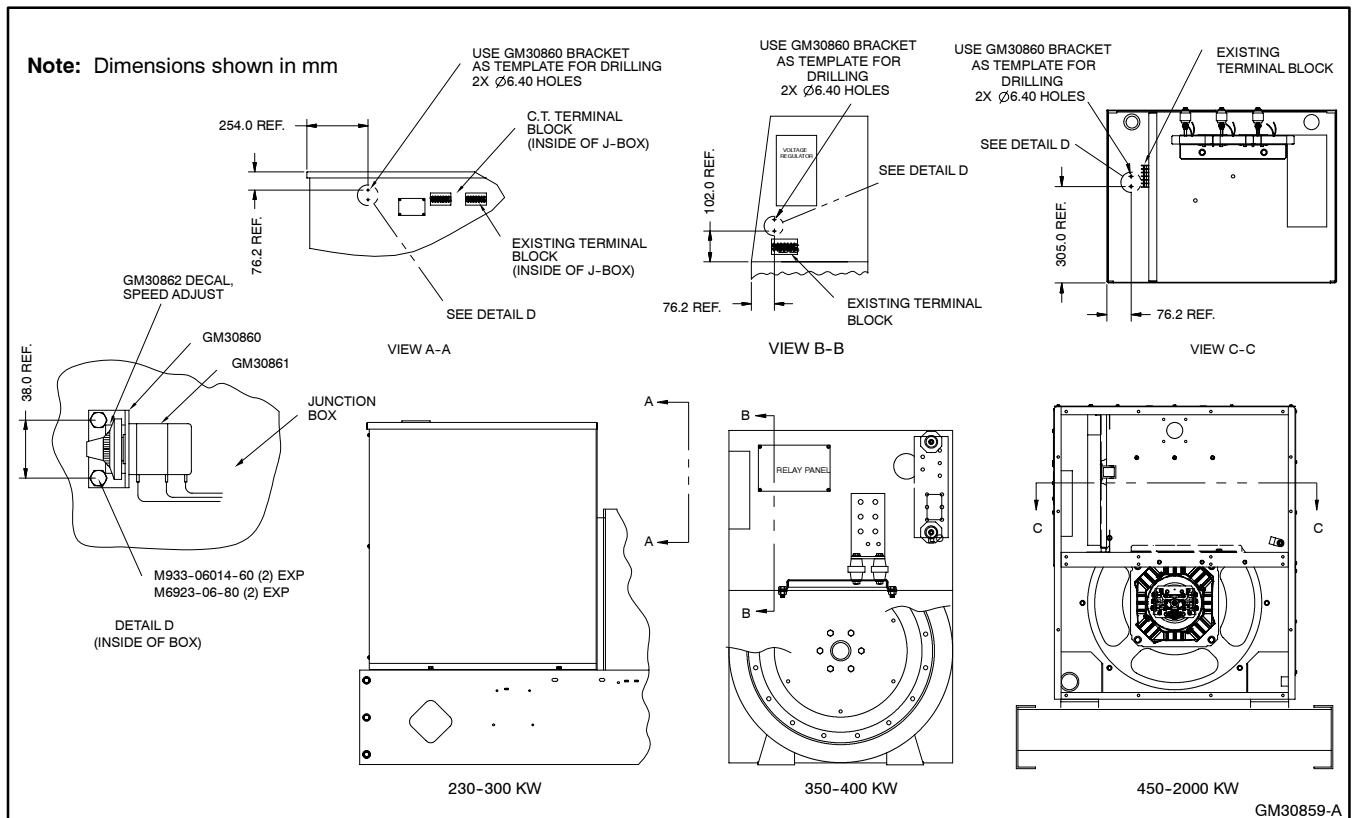

Figure 3 Remote Speed Potentiometer Installation
- 2.2 Select a location on the junction box for mounting the kit. Recommended locations are shown in Figure 3.
- 2.6 Attach bracket (GM30860) to junction box using two screws (M933-06014-60) and nuts (M6923-06-80) as shown in Figure 3. Mount the bracket where the decal side of the bracket is facing toward the user.